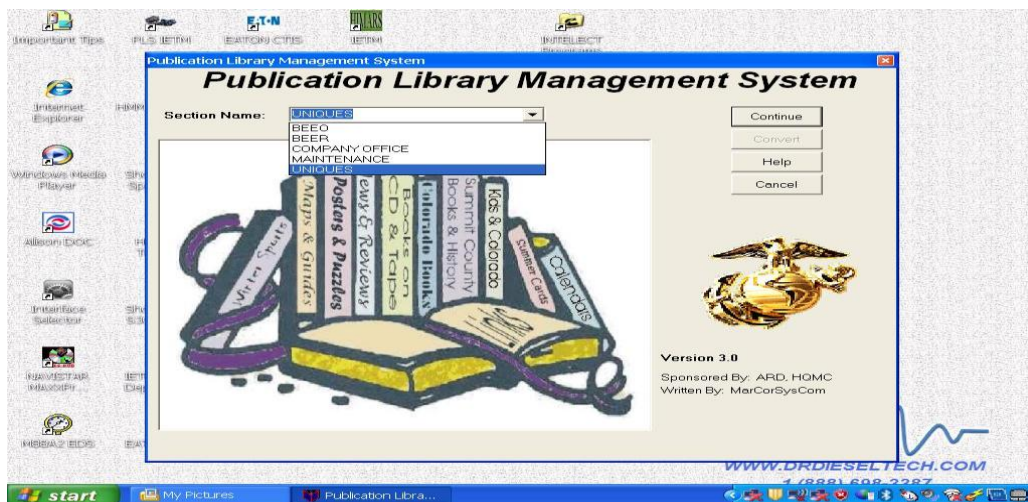

Figure 1: PLMS Menu
a. Main Menu. Like most information systems, PLMS has a Main Menu or starting point. Like most menus, the user selects the desired option, and then selects "continue." The Menu will be similar to Figure 1 following: